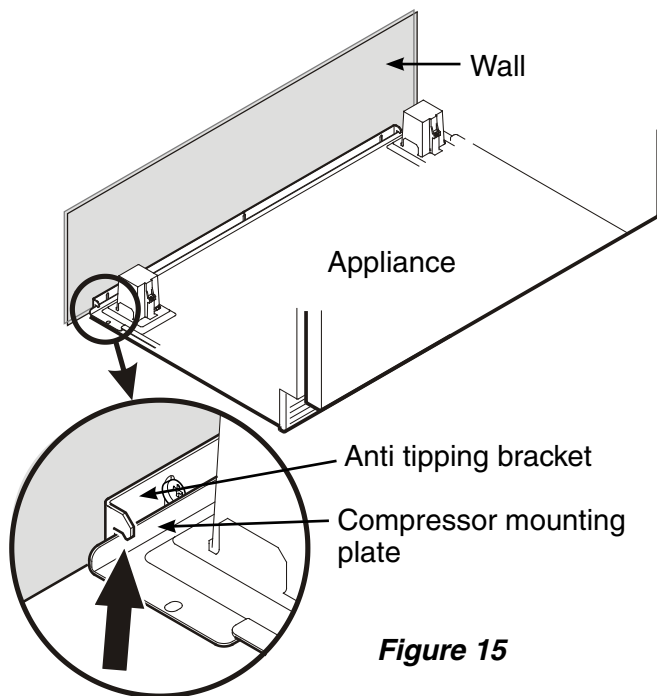

Figure 15
4. Push the appliance slowly to the back wall until the compressor mounting plate makes contact with the anti-tipping bracket (**Figure 15**).
To prevent the appliance from tipping forward the compressor mounting plate must have contact with the anti tipping bracket (Figure 15).